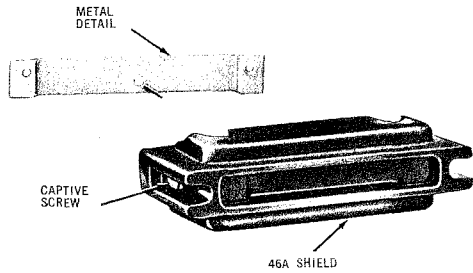

Fig. 9 — 46A Shield
3.05 The *46A Shield* (Fig. 9) consists of a shield of insulating material containing two captive screws and a metal mounting strap.